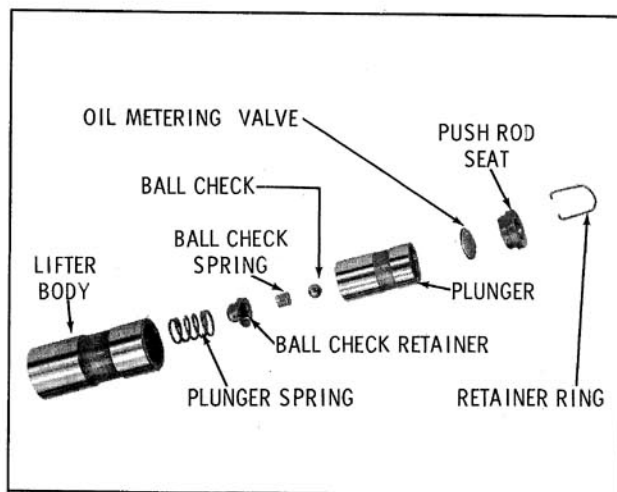

Fig. 3-58 Valve Lifter - Exploded View
2. Assemble ball check and retainer into plunger. (Fig. 3-58) Make sure retainer flange is pressed tight against bottom of recess in plunger.